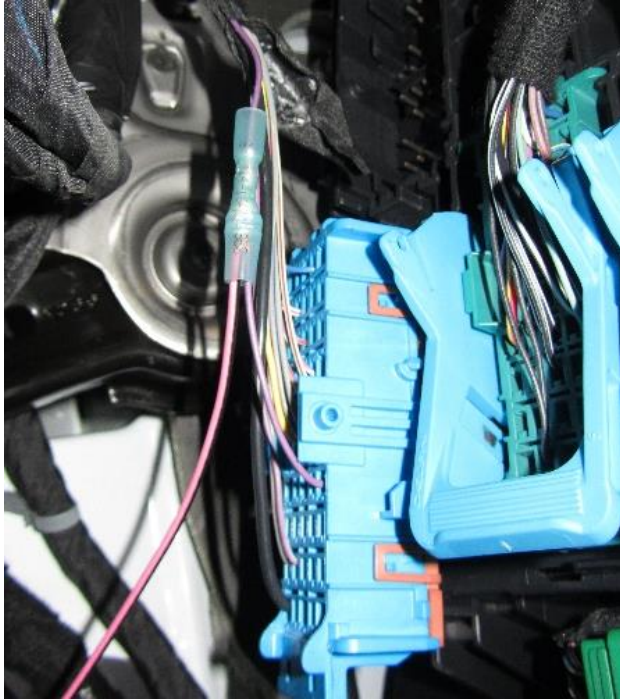

Figure 33: Pink/Black (Brake) Spliced to Violet/Gray wire
16. Locate the Pink/Black wire in the dash harness. Tie the cut end of the Violet/Gray wire and the Pink/Black (Brake) wire together and insert into the other end of the butt splice and crimp. See Figure 33.